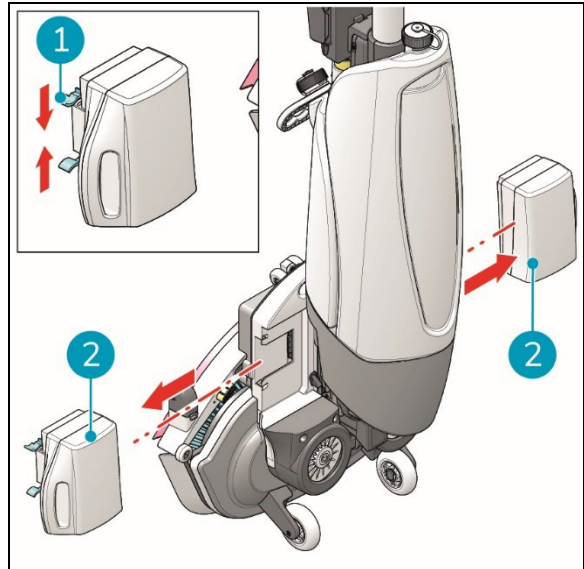

Figure 28
3. While pressing both plastic pins inwards (Figure 28, pos. 1), pull each battery pack away (Figure 28, pos. 2).